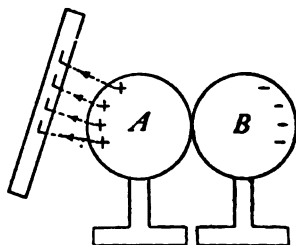

FIG. 196.—Production of two charges by the influence of a third charge.
**220. Electrical Separation by Induction.**—The action just described may be illustrated further by taking two insulated, uncharged brass shells, *A* and *B*. (See Fig. 196.) Bring a charged vulcanite rod near shell “*A*”